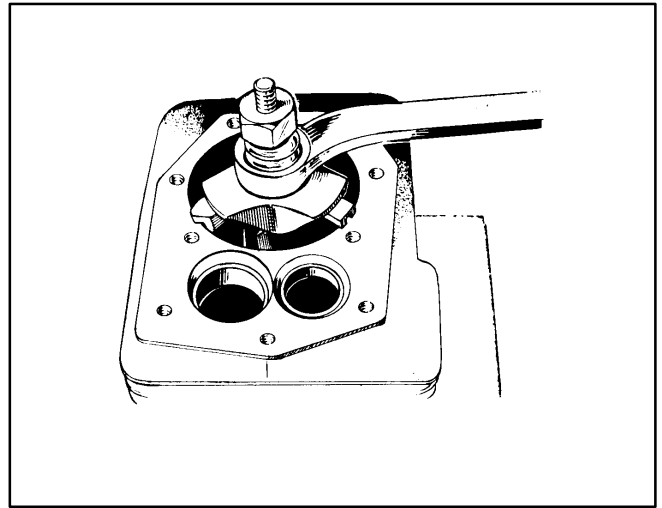

FIGURE 7-12. CYLINDER RIDGE REAMER
1. Remove the ridge at the top of the cylinder with a ridge reamer before attempting to remove the piston (Figure 7-12).